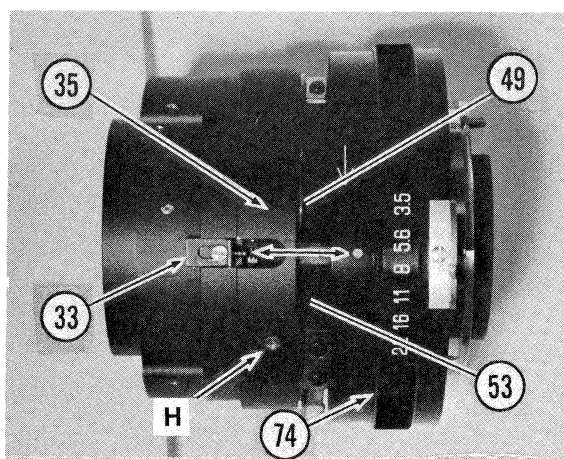

Fig. 53
- 6.1 Place Front Focus Spacers (49) on Lens Mount Ring. Replace same Spacers previously removed or, if installing a new Lens Mount, use a combination of Spacers 0.4mm thick. (Fig. 53)
- 6.5 Rotate Lens Mount Assembly until red dot on F/Stop Index Ring aligns with brass pin in Change Plate (33). This will be approximately the correct position. (Fig. 53)
- 6.7 Tighten one setscrew (H) lightly to hold Lens Mount Assembly in position. Check operation of diaphragm at all f/stops and half-stops. Note particularly the change in f/stop between f/22 and f/16. See Par. 4.2.13.1. (Fig. 53)
- 6.8 When Lens Mount position is correctly adjusted, tighten three setscrews (H), locking them in place with thread sealant. (Fig. 53)